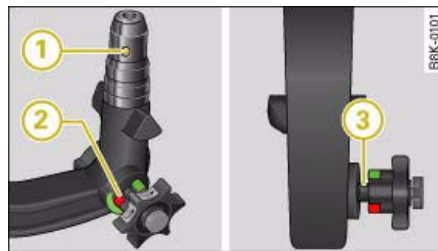

Fig. 209 Removable towing bracket: Ball joint
- Check that the red marking ② => fig. 209 on the knob is inside the green zone on the ball joint.
- Check that the locking ball ① is inside the hole in the shaft section of the ball joint.
- Check that the knob protrudes visibly from the ball joint, so that there is a clear gap ③ between the knob and the ball joint.